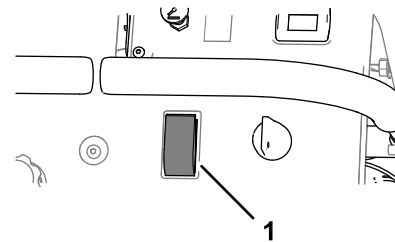

Figure 45
9. Set the sprayer-pump switch to the ON position (Figure 45).